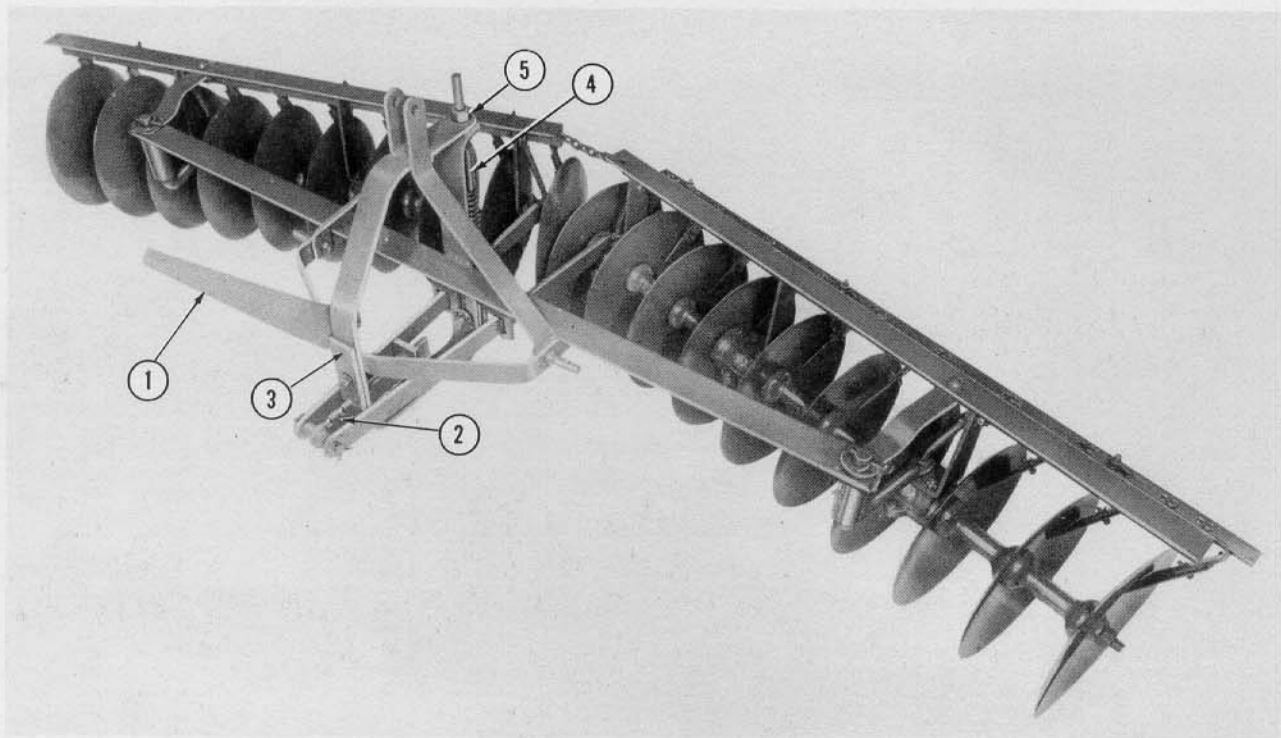
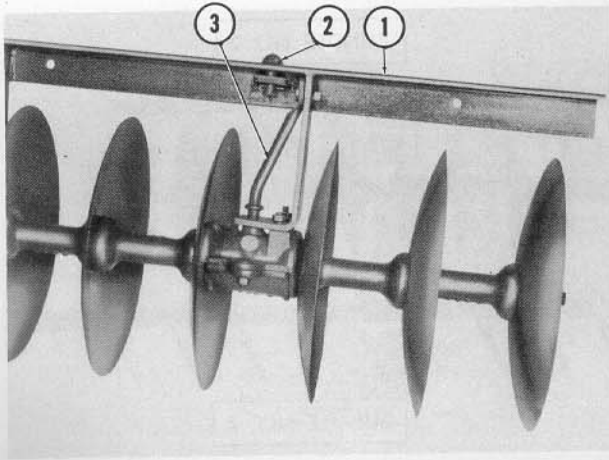

Figure 1
Figure 3
2. Place disc gangs in approximate operating position, as shown in Figure 1, and prop with suitable blocks so that angle frames (1), Figure 3, will remain in upright position.
3. Remove pin (2) and leg brace (3), Figure 3, from both gangs.